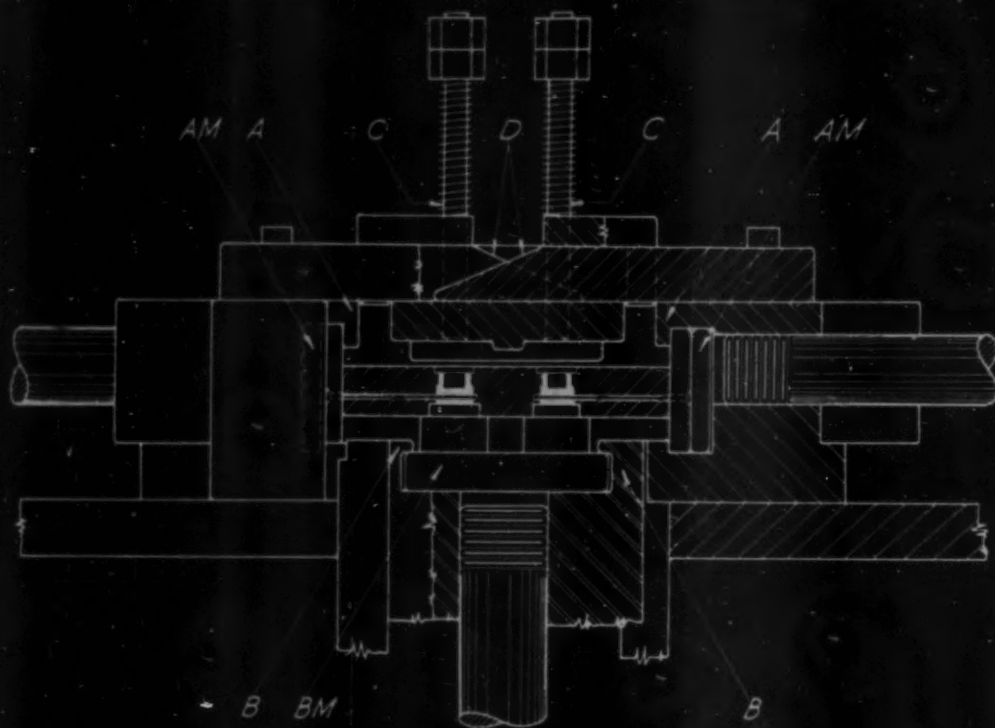

FIG. 2
The engineering department of this molding plant set out to solve the problem of rapid production in a manner which would permit the continued use of a hand-type mold. The final decision rested on the use of a transfer mold which had a removable yoke or pin plate—the pins to be employed as supports for the inserts during the molding operation. The arrangement then was altered to include an ingenious hydraulically operated fixture for the dismantling of the mold. This device is shown in Fig. 4. As can be seen, this fixture employs three hydraulic cylinders. The one at the bottom serves to remove the bottom plate from the mold; those at the side withdraw the core pins. After the removal of these pins, a wedge mechanism located at the top of the device is activated. This movement releases the knockout pins which, in turn, eject the pieces from the mold. The lettering on the illustration corresponds to that shown on Figs. 2 and 3. *B* is the lower fork of the fixture which here is ready to receive the base plate that supports the mold. The side hooks (*A*) serve to grasp the bars which hold the core pins while the wedges (*D*) hold knockout pins (*C*). (Please turn to next page)
The blueprint shown in Fig. 2 represents a cross section of this fixture when it is in a closed position with the mold in place just as it comes from the press. The lower fork (B) of the fixture grasps the base plate of the mold (BM). The moving of the control lever actuates the lower hydraulic cylinder attached to fork (B), thereby stripping the base plate from the mold. This plate then is removed from the fixture leaving ample space for the molded parts when they are knocked out of the cavities. The next operation involves the turning of a second valve handle which operates the two side cylinders. These cylinders withdraw the hooks (A) which grasp the bars (AM) on which the sliding core pins are mounted. Approximately half the motion of the two side cylinders is needed to withdraw the sliding core pins. The balance of this same action slides the wedges (D) outward, thereby permitting the knockout pins (C) to lower under spring tension. This action serves to eject the molded parts into the space previously mentioned. The parts then are removed, the side cylinder and core pins are returned to their original position and the base plate is reinserted in the fixture. In other words, the entire mold is reassembled by a complete reversal of the motions described above.
The cellulose acetate knob shown in Fig. 2, was designed with no threads and with an inside diameter of $\frac{1}{16}$ inch. Theoretically this made the piece a press fit on the $\frac{7}{16}$ -in. diameter section of the operating lever. A sectional view of the lever